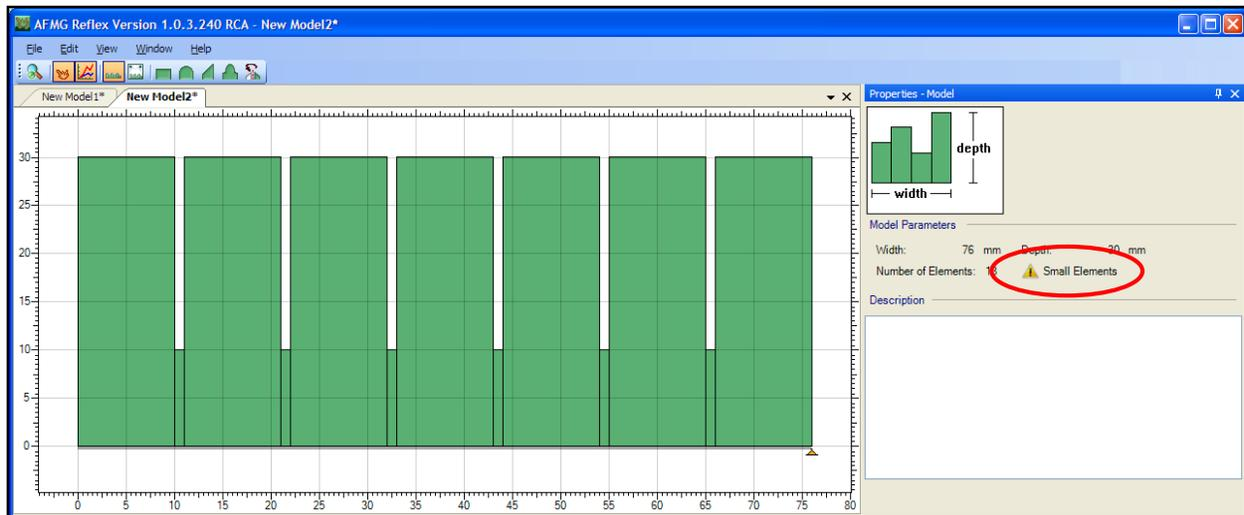

Figure 2.12 – Model showing deep, narrow slots
The user should be aware that while BEM calculations can give good results (6), their accuracy may be limited under certain conditions. One of which to be particularly aware is a deep, narrow slot in a diffuser. In the example shown in Figure 2.12 the slot width is 1 mm and the depth is 20 mm. However, a similar condition may occur at larger widths but when the depth is also sufficiently greater than the width for a cavity ( $D \gg W$ ).